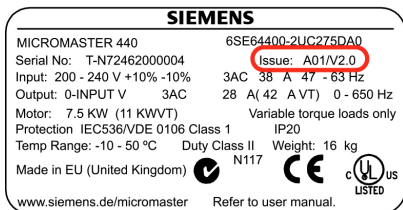

Figure 3-1 Inverter Rating Label
2. By reading the Rating Label on the inverter as shown in Figure 3-1 below.